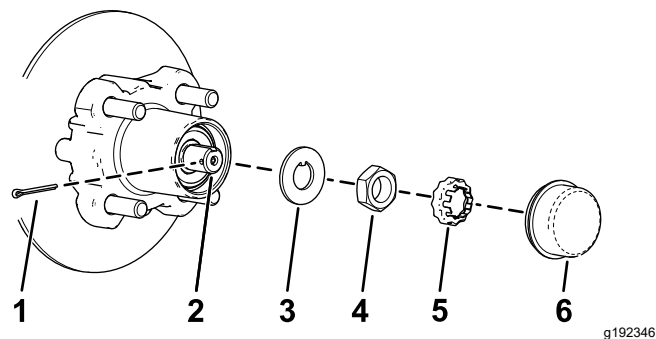
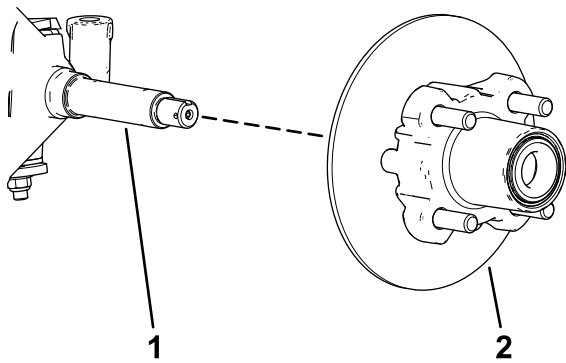

Figure 32
Figure 33
4. Remove the dust cap from the hub (Figure 32).
5. Remove the cotter pin and nut retainer from the spindle and spindle nut (Figure 32).
6. Remove the spindle nut from the spindle, and separate the hub and rotor assembly from the spindle (Figure 32 and Figure 33).